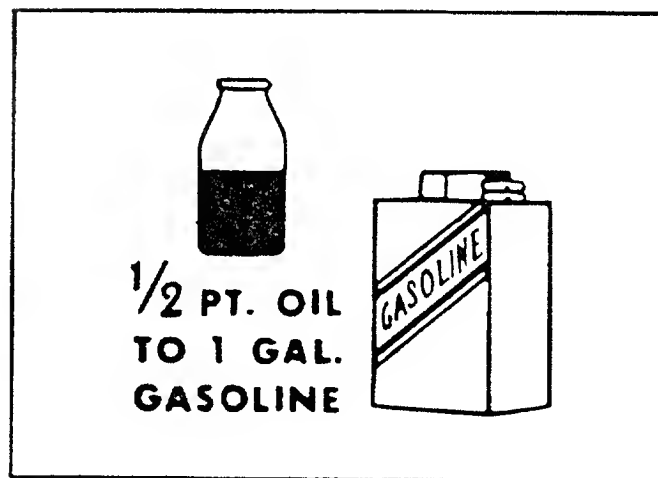

FIGURE 5.
1. This mower has a two cycle engine. It **MUST** use a gasoline-oil mixture of 20:1. See figure 5.
2. Mix in a clean container one half (1/2) pint of SAE 30 or 40 oil per one (1) gallon of regular gasoline. (NOT NO LEAD GASOLINE.) This mixture assures positive lubrication. Do not use 10W-30 type oils. See figure 5.